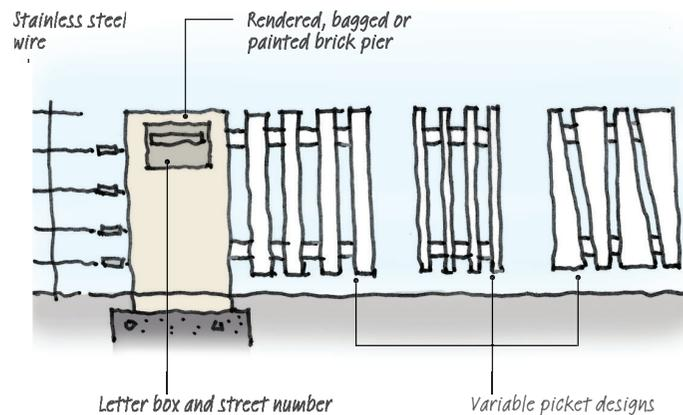
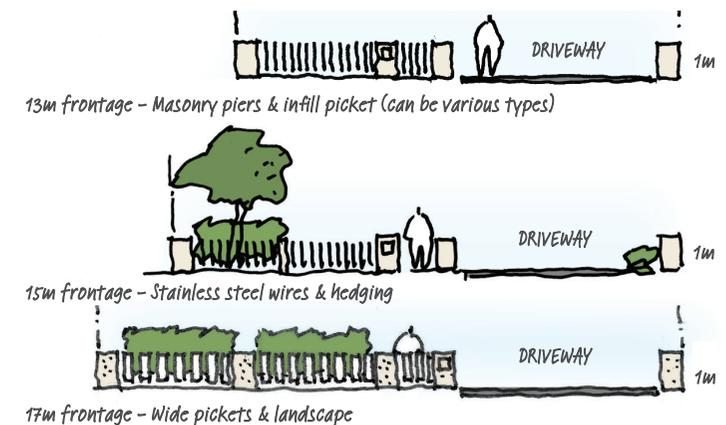

FIGURE 33: Fence Type 2 - Variable picket designs together with entry pier Indicative
FIGURE 34: Fence Type 2 - Indicative front fencing for 13m, 15m and 17m frontage lots
- Masonry, rendered bagged or painted piers, with infill timber pickets, metal picket (flats) or stainless steel wire and turnbuckles (refer Figure 33 and Figure 34).